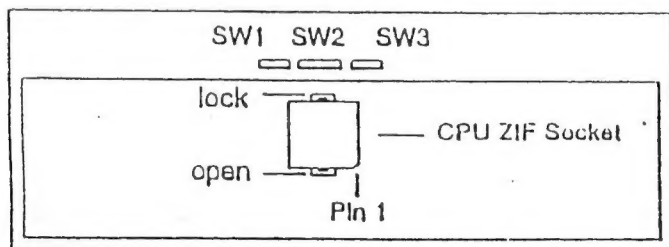

Figure A-1 CPU and switch locations
- Locate the CPU socket on the main board (see Figure A-1).
- Insert the tip of a flathead screwdriver into the small slot on the CPU ZIF socket marked "OPEN" (see Figure A-1). Gently push the screwdriver forward (toward the LCD screen) to open the CPU socket.
- Orient the CPU so that pin 1 on the chip (clipped corner) corresponds to pin 1 (see Figure A-1) on the socket.
- Using a small screwdriver, adjust dip-switch SW1, SW2, and SW3 (located underneath the top cover, see Figure A-1) as necessary according to Table A-2 for the installed processor.